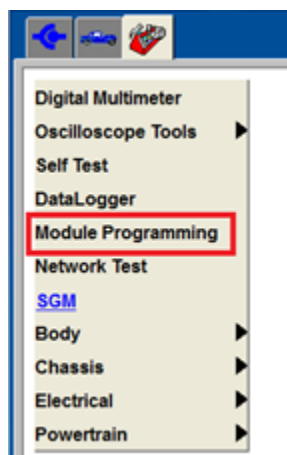

Figure 1
- **Module Programming Menu (figure 1) is available in the Toolbox tab after starting a session with a vehicle.**